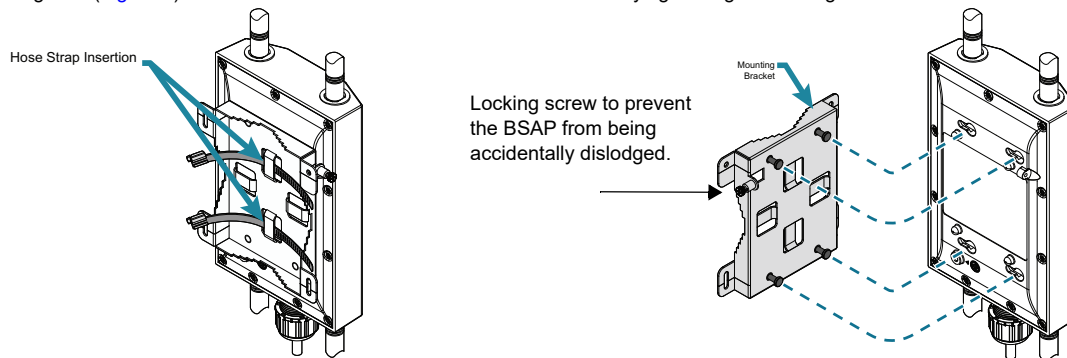

Figure 3. Insert Hose Straps for Vertical Mounting and Securing BSAP to Mounting Bracket
3. Thread the open end of the hose straps through the two tabs on the top and bottom of the mounting bracket so that the BSAP is aligned vertically (as shown in Figure 3).
4. Attach the chassis to the pole mounting bracket by sliding the keyed slots on the back of the chassis securely onto the bracket's protruding mounting tabs (Figure 3). Be sure to secure the BSAP 6120 to the bracket by tightening the locking screw illustrated in the image below.